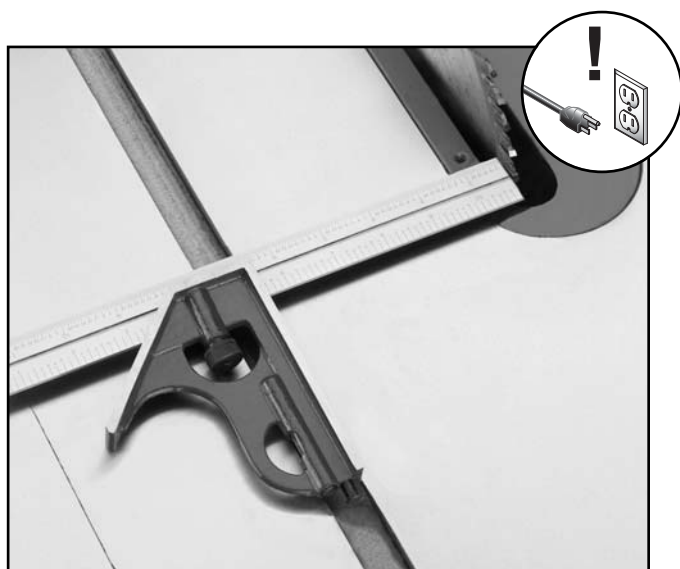

Figure 38. Adjusting blade to miter slot.
2. Use an adjustable square to measure the distance from the miter slot to a carbide tip on the blade as shown in **Figure 38**. Make sure that the face of the adjustable square is even along the miter slot.